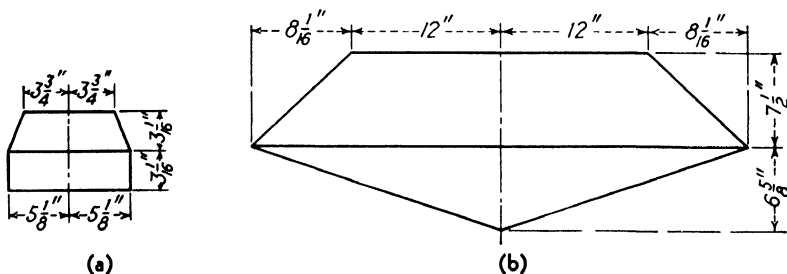

Fig. 84c.
5. Find the area of the figures in Fig. 84c.